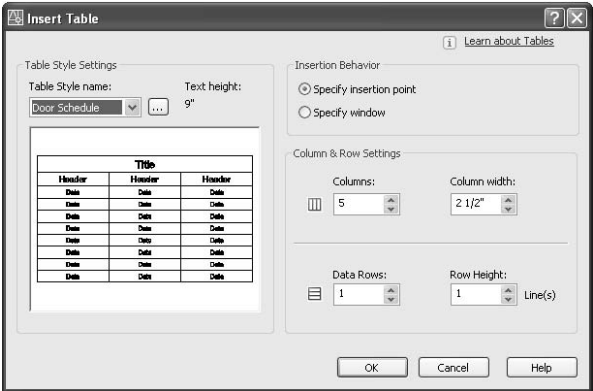

FIGURE 10.46: The Insert Table dialog box
1. Zoom in to the upper portion of the drawing. Near the bottom of the Draw toolbar, click the Table icon to open the Insert Table dialog box (see Figure 10.46). In the Table Style Settings area, the Door Schedule is displayed in the Table Style Name drop-down list because it is now the current table style. An abstract version of the table is displayed below in the preview window.